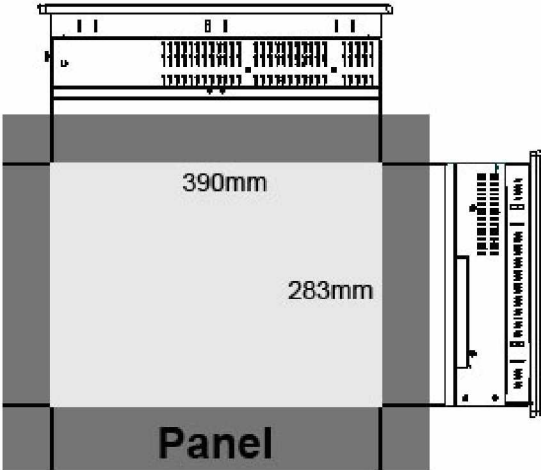

Figure 3-7: Cut the Panel
**Step 2:** Cut out a section from the panel that corresponds to the dimensions of the 2901300 flat panel PC chassis. The panel section that is cut out must be smaller than the size of the aluminum frame that surrounds the 15" TFT LCD panel but just large enough for the chassis to fit through (see **Figure 3-7**).